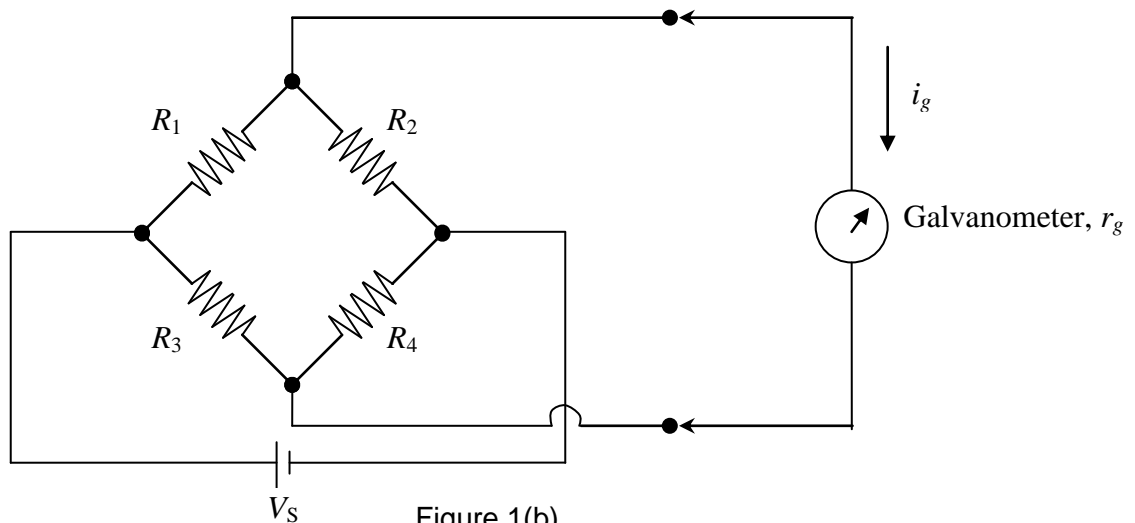

Figure 1(b)
- (b) The Wheatstone bridge circuit is shown in Figure 1(b). Referring to this figure, R_1 , R_2 and R_3 are pure resistors while R_4 is sensor resistor. The circuit employs a galvanometer with internal resistance, r_g as a detection device.
- (i) using the Thevenin theorem, draw the equivalent circuit of Figure 1(b), showing clearly E_{th} and R_{th} ,